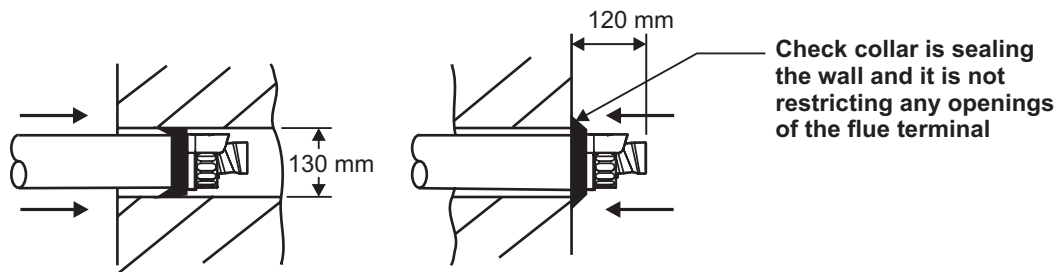

Fig. 14 - Fitting the flue from inside
4.6 FIT THE FLUE - Figs. 14 and 15
Note: Check the flue terminal protrudes 120 mm out of the wall and the inner duct of the terminal is positioned correctly (see Fig. 14).